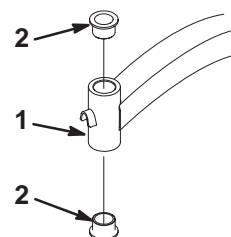

Figure 65
4. Insert a pin punch into the mounting tube and carefully drive out the bushings (Fig. 65). Clean the inside of the mounting tube.